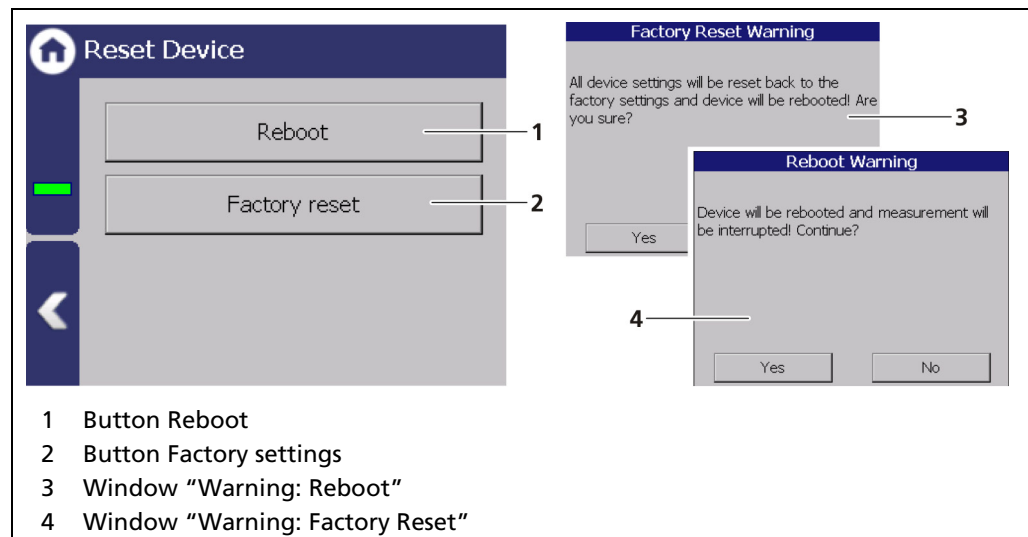

Fig. 40 Reset Device
- ▶ The program starts (Fig. 40, item 1).
2. Click on the <File> tab and then on <Connect...> (Fig. 40, item 2), to establish a connection to the EVU.
- ▶ A new window "Connect" is opened (Fig. 40, item 3) and the connected transmitters are listed.
3. Click on the identifier of the transmitter (Fig. 40, item 4) or enter the IP address of the EVU in the input box (Fig. 40, item 5) (see Fig. 40, item 2).